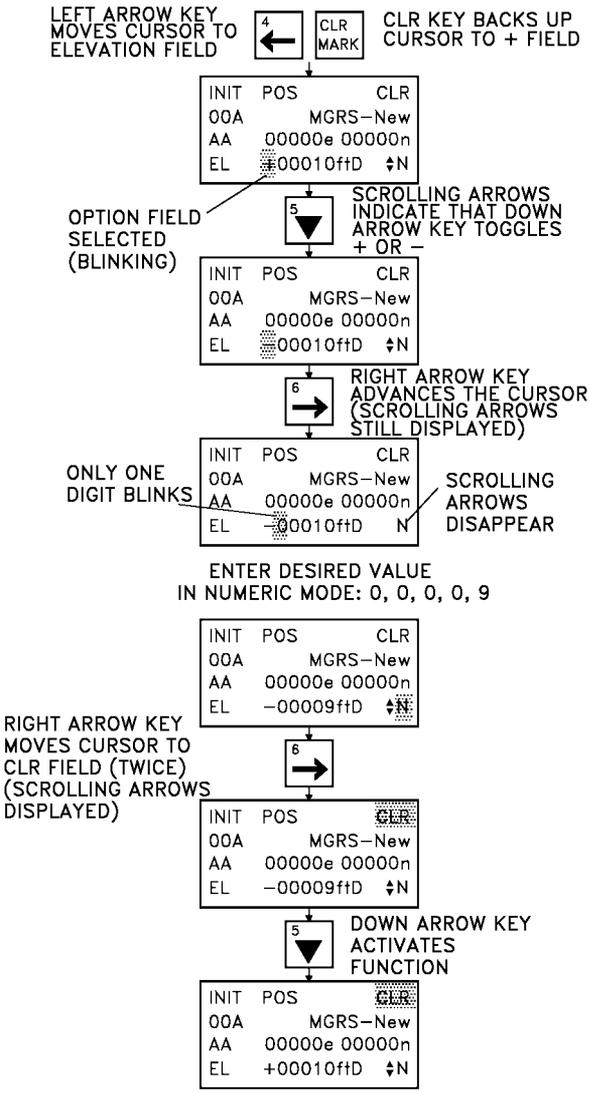

Figure 2-6 Entering Data-Numeric Mode.
- (1) Select the field to be changed.
- (2) Press the *NUM LOCK* key to enter numeric mode. The N in the lower right-hand corner of the display shows the keypad is in numeric mode. See Figure 2-6.
- b. Figure 2-6 provides data entry example in numeric mode. The example uses the present position initialization display